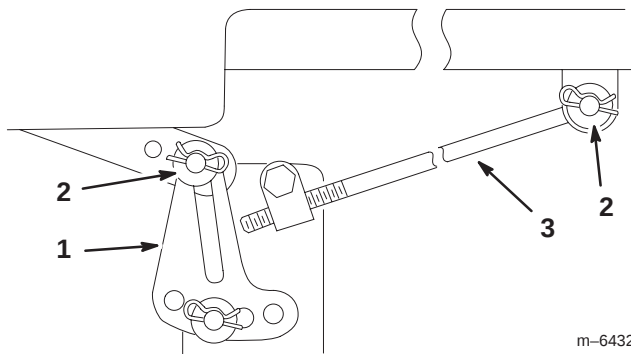

Figure 3
6. Remove the hairpin cotter and washer from the adjusting rod (Fig. 3) on each side of the mower.
7. Remove the hairpin cotter and washer at the mower leveling brackets (Fig. 3) on each side of the mower.